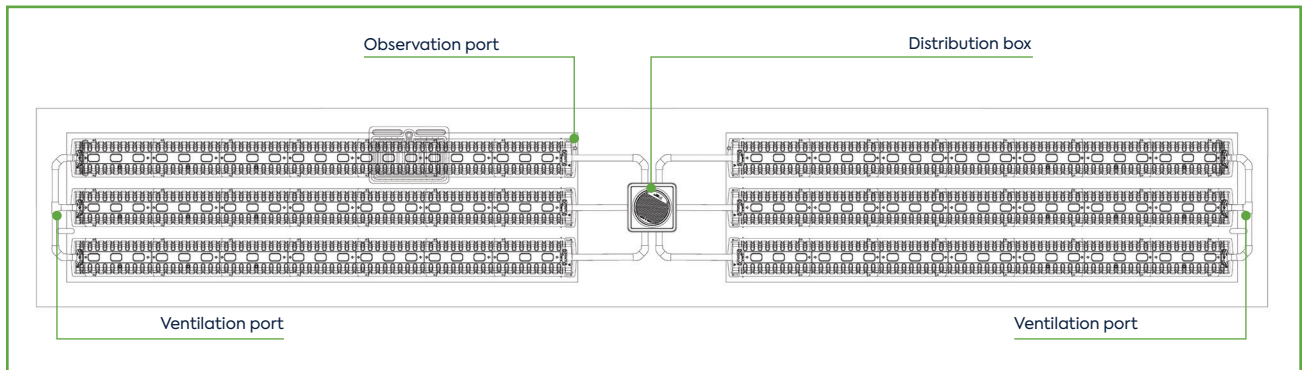

Figure 5.4.2 | Schematic of the ventilation of the Ecoflo linear biofilter EL30 with clusters of treatment modules
- Note that an installation with clusters of treatment modules needs to be vented individually, as shown in figure 5.4.2, and according to specification stipulated in section 5.4.2 below.